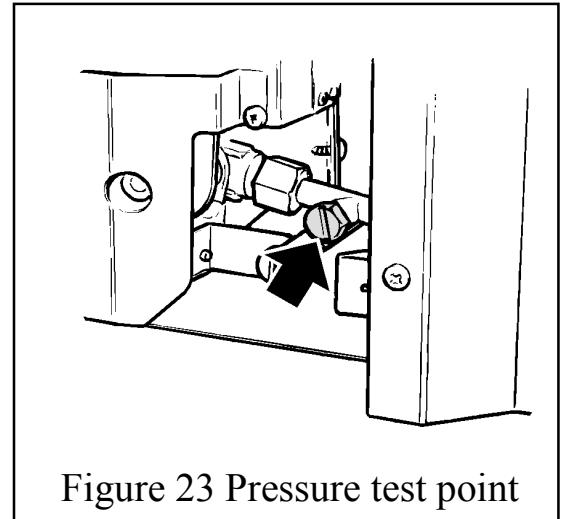

Figure 23 Pressure test point
1. Check the burner pressure by fitting a pressure gauge at the test point. The test point is on the pipe situated below the bottom right corner of the burner unit. See figure 23. Check the pressure with the appliance alight and set at maximum output.